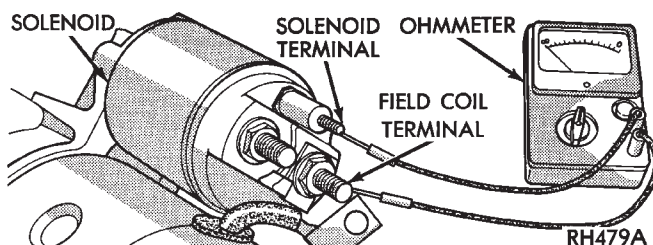

Fig. 9 Continuity Test Between Solenoid Terminal and Field Coil Terminal
(1) Remove the wire from the solenoid field coil terminal.
(2) Check for continuity between the solenoid terminal and the field coil terminal with a continuity tester (Fig. 9). There should be continuity. If OK, go to Step 3. If not OK, replace the faulty starter assembly.